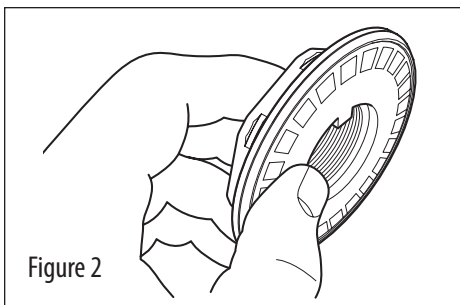

Figure 2
2. Seat the flat washer into the back of the spindle nut (see figure 2).